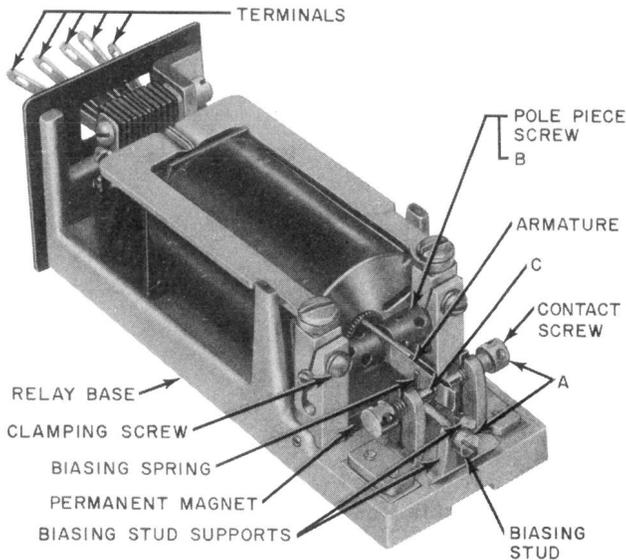
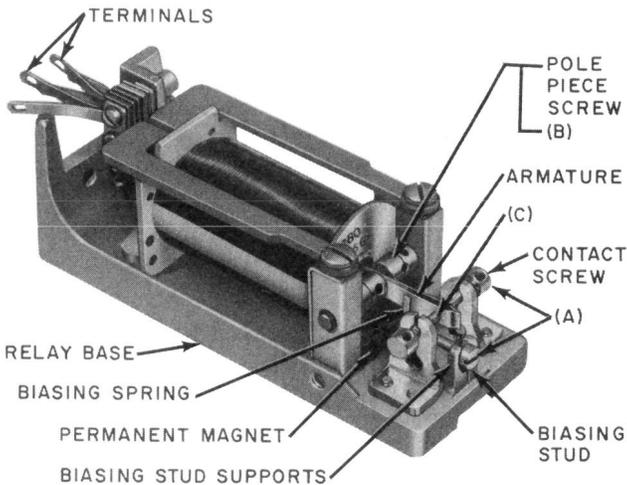

Fig. 5—280-Type Relay (Old Type)
Fig. 6—280-Type Relay (New Type)
***2.09 Tightness of Contact Screws and Biasing Stud:** Fig. 5(a) and Fig. 6(a)—Contact screws and biasing stud shall be sufficiently tight
***2.10 Tightness of Pole-Piece Screws:** Fig. 5(B)—Pole-piece screws shall be held sufficiently tight in the pole piece to hold them in
2.11 Contact Travel: Fig. 5(C) and Fig. 6(A)—The contact travel shall be